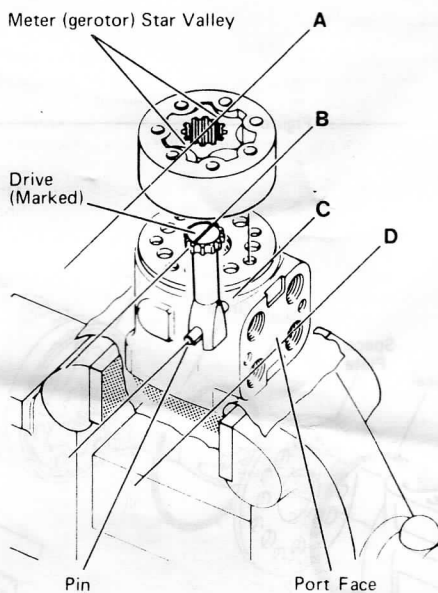

Figure 7
- 29 Rotate spool and sleeve assembly until pin is parallel with port face, see Fig. 7, (ref. C). Install drive, make sure you engage drive with pin. To assure proper alignment, mark drive as shown in Fig. 7, (ref. B). Note relationship between slotted end of drive to splined end of drive when marking.
- 31 With seal side of meter (gerotor) toward spacer plate, align meter (gerotor) star valleys (ref. A) on drive (ref. B). Note the parallel relationship of reference lines A, B, C, and D Fig. 7. Align bolt holes without disengaging meter (gerotor) from drive.